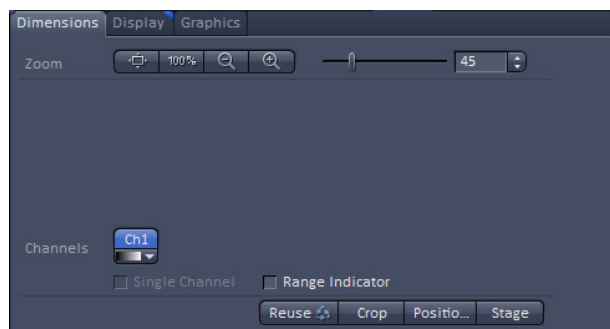

Fig. 182 Positions button in the Dimensions control tab of the 2D view
- Activate the **Positions** button in the **Dimensions** control tab (Fig. 182).